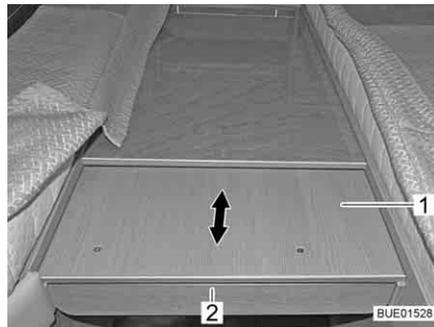

Fig. 137 Pull out bed widening
- Reach under the panel (Fig. 137,2) and pull out the extension (Fig. 137,1) as far as possible.